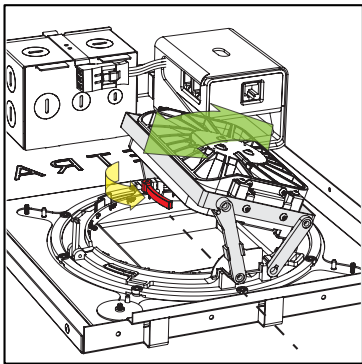

fig. 5
- c. Unlock the tilt lock by pulling it toward the fixture aperture. The tilt lock is the red, horizontal lever to the right or left side of the emitter chassis body (see fig. 5).